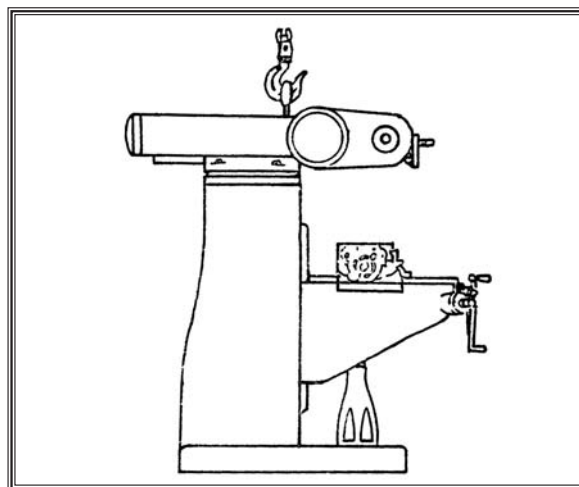

Figure 8: Using the eye bolt to lift the mill.
1. Swivel the head 90° from vertical, as shown in **Figure 8**, to lower the center of gravity. The mill may be in position when removed from the crate.